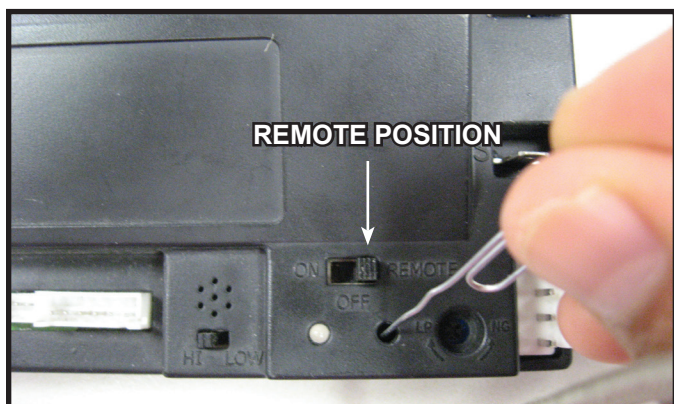

Figure 5. Programming RC300
- Verify the ON/OFF/REMOTE switch is in the REMOTE position. Green LED light will blink three times and control module will beep once 5 seconds later when ready. See Figure 5.
- Using a small item (such as a paper clip) press and release the LEARN button located near the ON/OFF/REMOTE switch. See Figure 5.
- Move switch to OFF (See Figure 5).